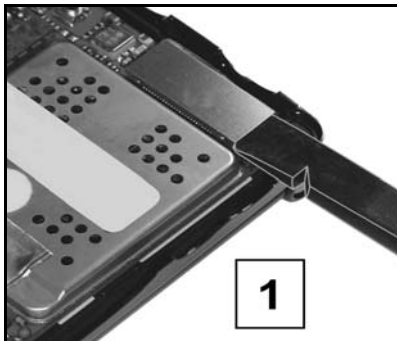

Figure 7-13.
1. Insert tip of black stick under narrow side of 50-pin flex connector  $\leq 1/16"$ . Gently pry upwards, then repeat on other narrow side until connector releases (see Figure 7-13).